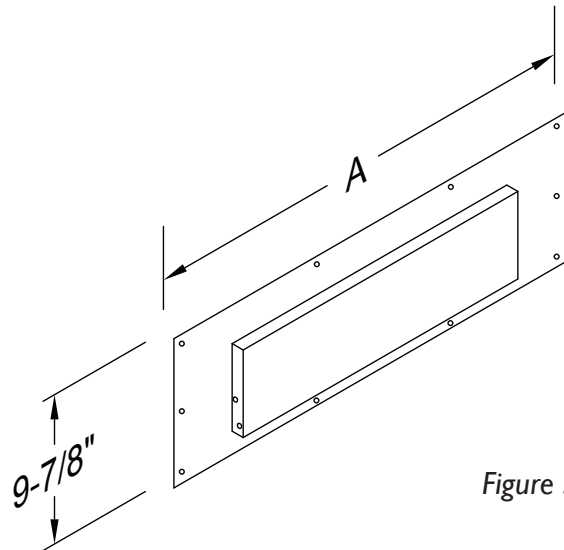

Figure 3
- The panel, shown in *Figure 3*, can be used as the drilling template for attachment to the custom panel.